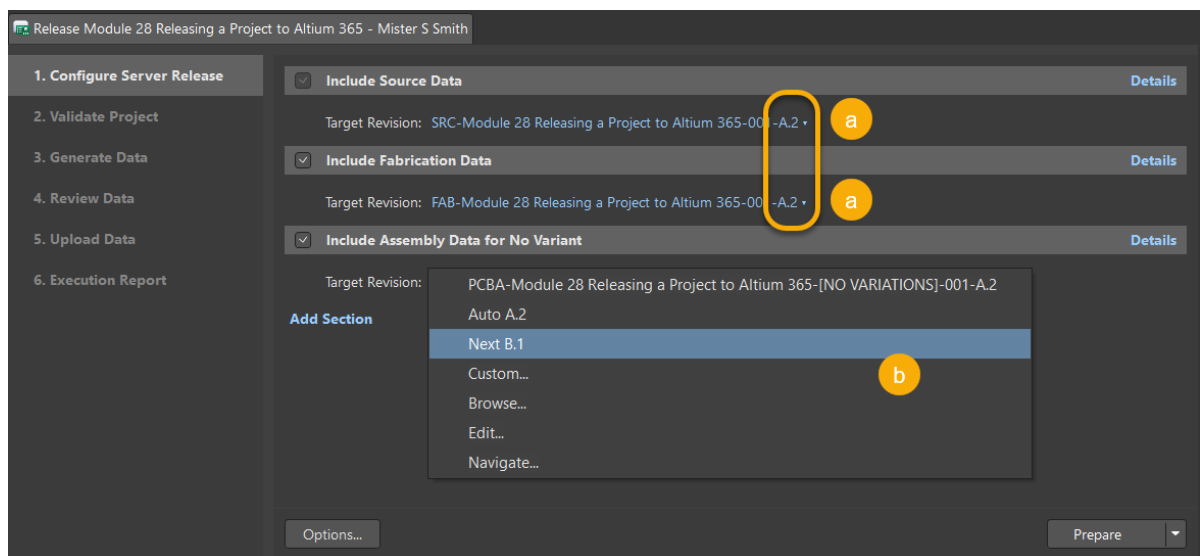

Figure 9. Second Release
35. The release Process starts again with Step 1. *Configure Server Release*, Figure 9